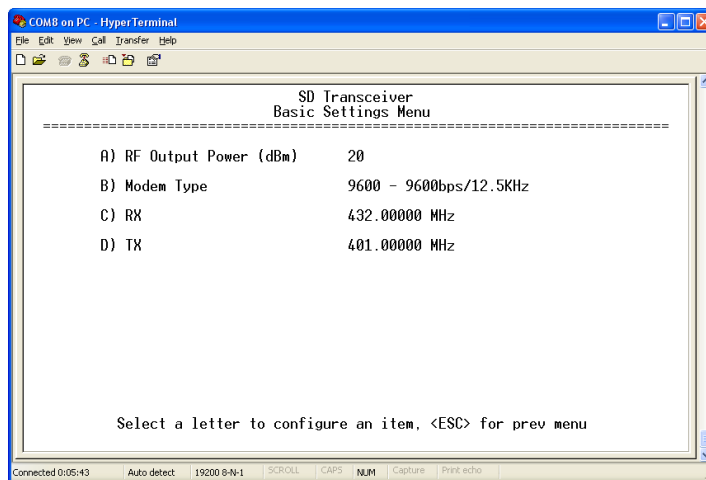

Figure 4. Radio Configuration>>Basic Settings Menu
8. Select **Radio Configuration** from the Main Menu and then select **Basic Settings**. The screen shown in Figure 4 appears. Review these basic settings to determine if they are appropriate for your system.